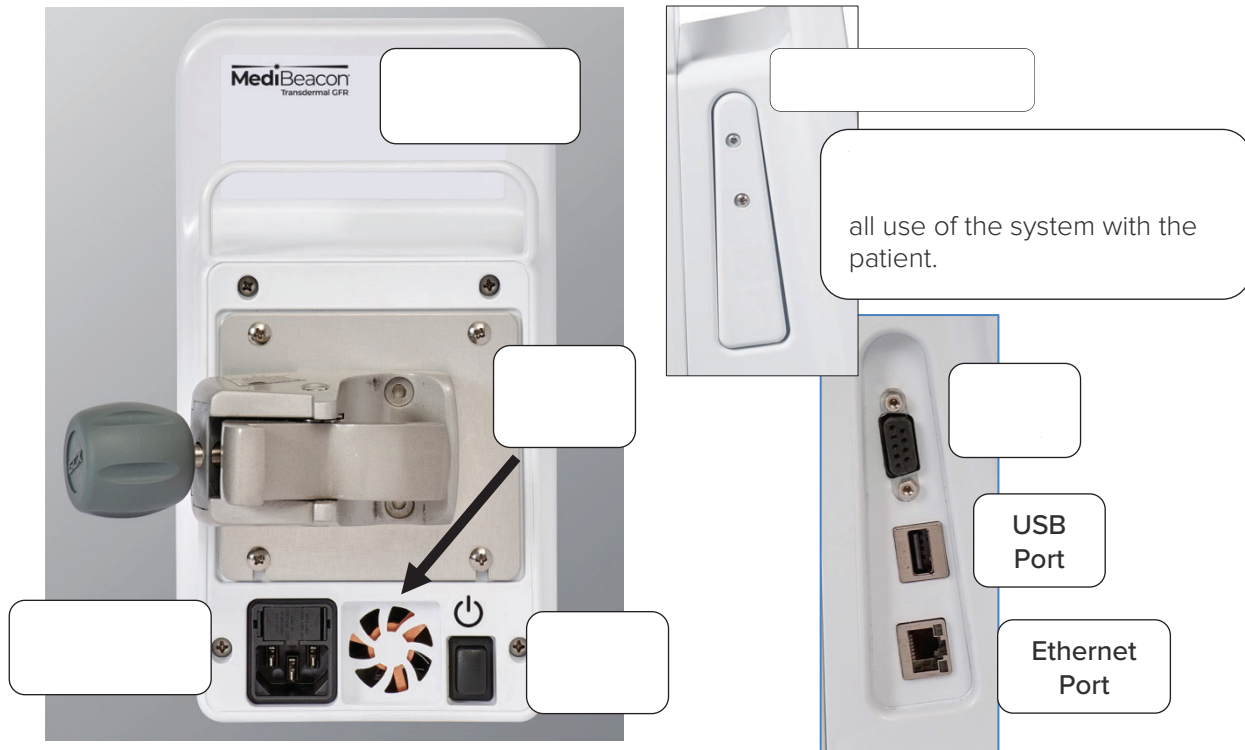

Figure 4. TGFR Monitor rear (left) and side (right) panels.
2. Connect the power cable to the port on the back of the monitor and to the wall outlet. Depressing the power button will power on the monitor (Figure 4, left). Maintain easy access to the power cord plugs at the monitor and wall outlet for disconnection from Mains power supply if required. Unplug the power cord to break Mains power supply.
3. Serial, USB and Ethernet ports are located on the left side of the monitor (Figure 4, right). These ports are not used during a regular session.